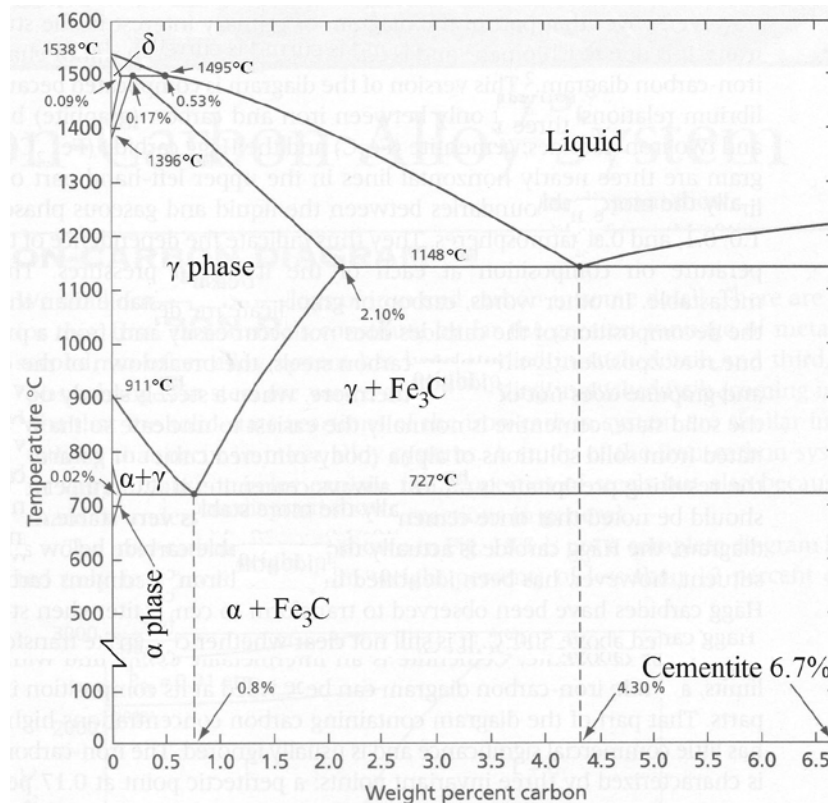

Figure 1
1. Fe-Fe₃C phase diagram is shown in Figure 1, answer fellow questions according to this diagram.